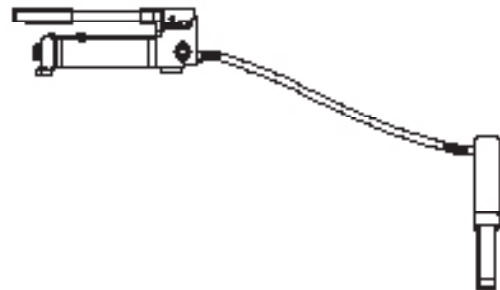

Figure 2 - Illustration to bleed air from system
2. Place pump at a higher elevation than the hose and cylinder as shown in Figure 2 below.